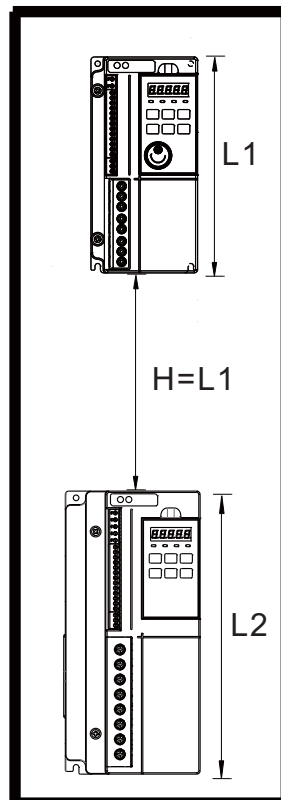

Fig. 2-2
- ◆ Take YD101-00P7-T4 and YD101-05P5 as example, the Min. Free Space "H" between VFDs must be a "L1" (150mm). See Fig. 2-2